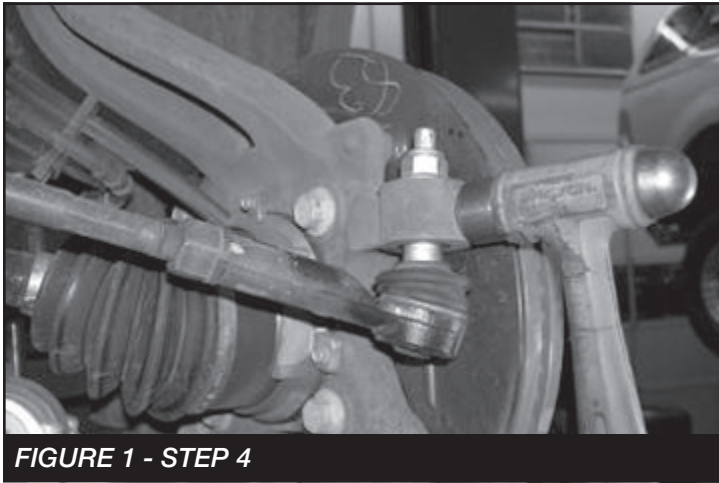

FIGURE 1 - STEP 4
4. Working from the driver side of the vehicle, remove tie rod end nut and disconnect the tie rod ends from the steering knuckle by striking the knuckle to dislodge the tie rod end. Use care not to hit the ball joints when removing. **SEE FIGURE 1**